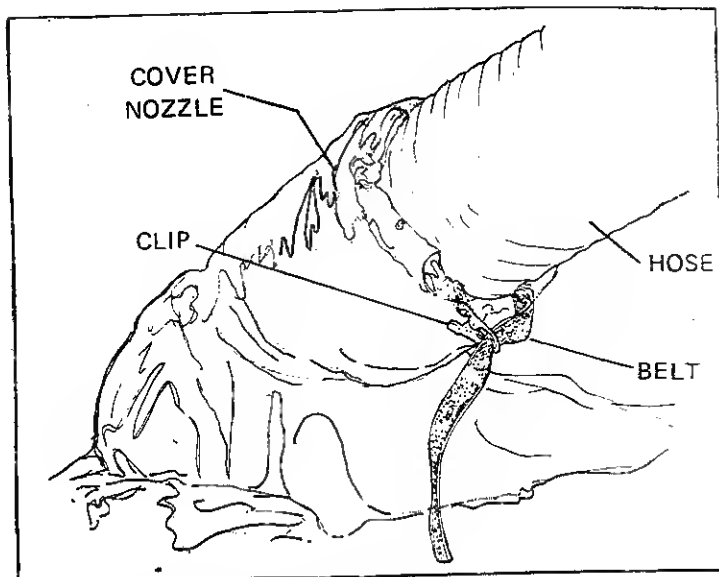

FIGURE 20
12. Insert hose in cover nozzle and tighten cover nozzle around hose with belt (Figure 20).